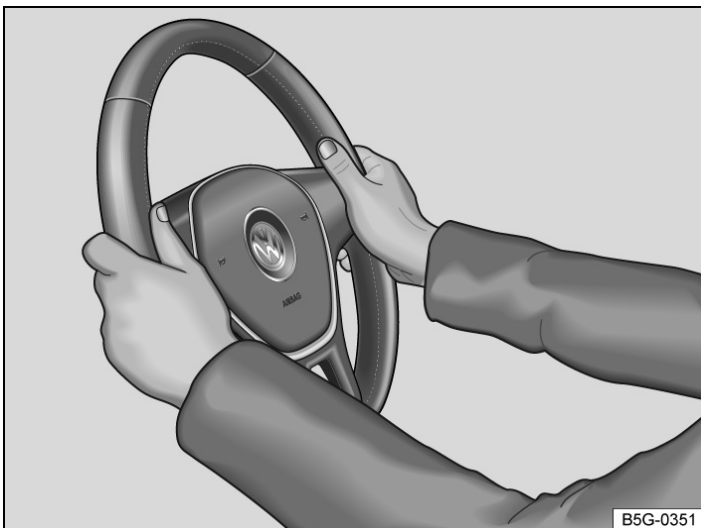

Fig. 2 On the steering wheel: 9 o'clock and 3 o'clock position.
- Adjust the steering wheel so that you can hold it with both hands at its outer edge at the 9 o'clock and 3 o'clock positions with your arms slightly bent → Fig. 2.
- While driving, always keep both hands on the outside of the steering wheel at the 9 o'clock and 3 o'clock positions → Fig. 2. This reduces the risk of injury if the driver front airbag is triggered.